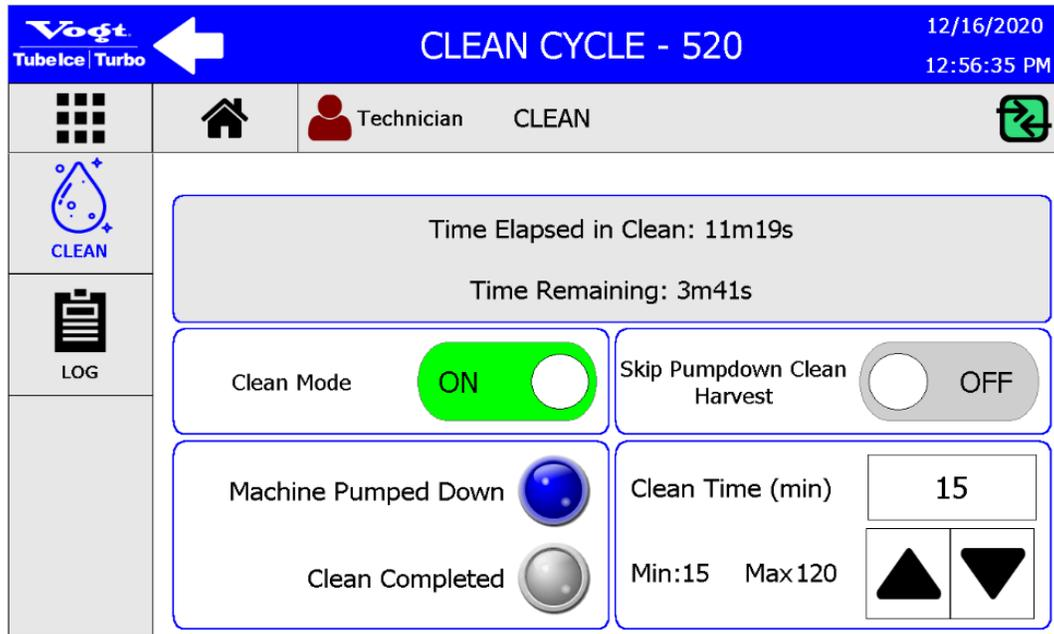

Figure 63: CLEAN Screen – Machine Pumped Down
12. After the machine has pumped down, the icon next to **Machine Pumped Down** will turn blue, the compressor will turn off, and the water pump will begin circulating the cleaning solution. Refer to Figure 63.